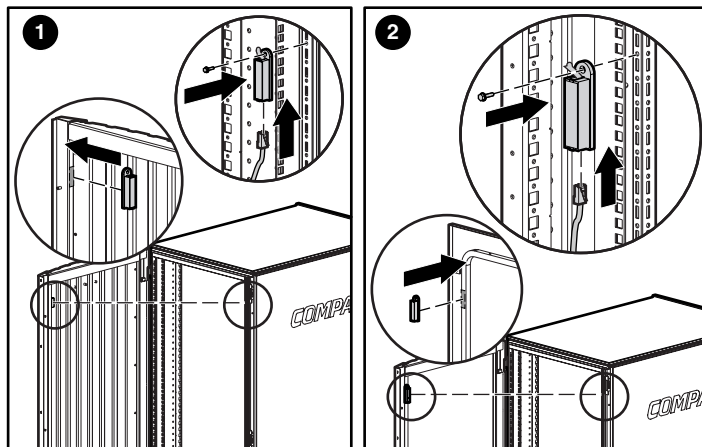

Figure 2-5. Installing the intrusion sensor in the 9000 series rack
- The optional intrusion sensors should be mounted on the doors of the second rack. (See Figures 2-5 and 2-6)